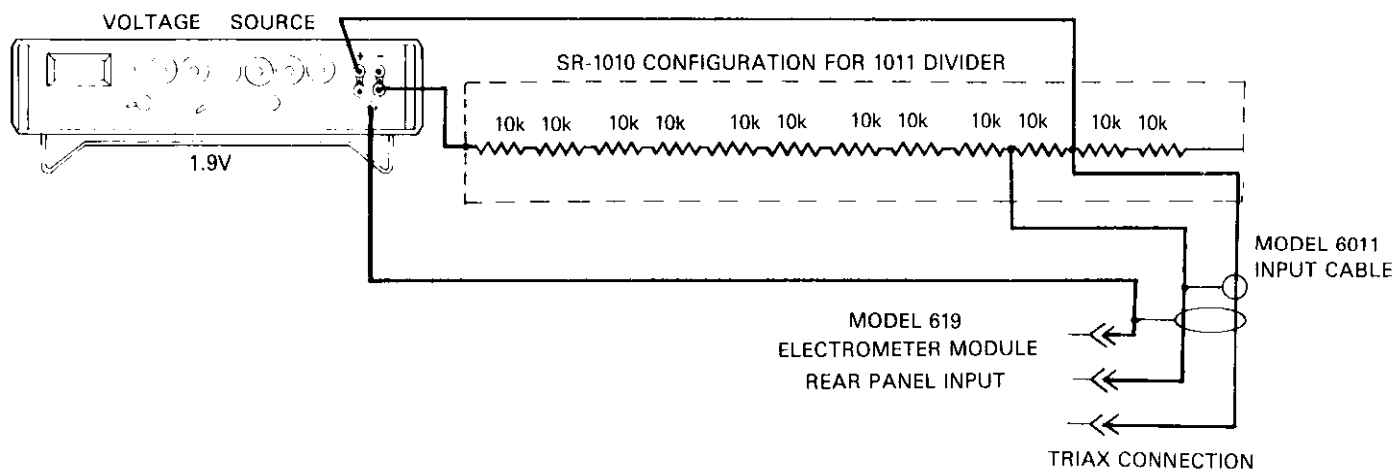

Figure 6-3. Supply Calibration .200mV
2. 200mV A/D Reference Supply Calibration: Using the DC Calibrator and 10:1 divider, apply +190.00mV to the input of the Electrometer. After actuating the Zero Correct, release the Zero Check and adjust R411 for a display reading of +190.00 -3 to within ± 1 count. Refer to Figure 6-3.